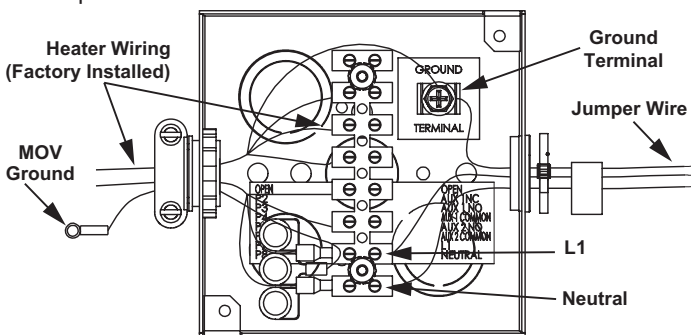

Figure 56. Electrical Wiring - Junction Box
The 120-VAC hot wire from the power supply must connect to the black jumper wire or the "L1" terminal block location in the junction box and the 120-VAC neutral wire must connect to the white jumper wire or the "Neutral" terminal block location in the junction box for correct polarity. See *Figure 56* (page 42).
3. Connect the 120-VAC hot wire from the power supply to the black jumper wire or the terminal block location marked "L1" inside of the junction box located on top of the water heater. If the black jumper wire is used, make the connection inside of the junction box with a properly-sized wire nut. Wrap electrical tape around the wire nut and wire end. See junction box *Figure 56* and the wiring diagram *Figure 67* (page 69).
5. Connect the 120-VAC neutral wire from the power supply to the white jumper wire or the terminal block location marked "Neutral" inside of the junction box located on top of the water heater. If the white jumper wire is used, make the connection inside of the junction box with a properly sized wire nut and wrap electrical tape around the wire nut and wire end. See junction box *Figure 56* and wiring diagram *Figure 67* (page 69).
7. Connect the ground wire from the power supply to the grounding lug inside the junction box. See the junction box in *Figure 56* and the wiring diagram *Figure 67* (page 69).